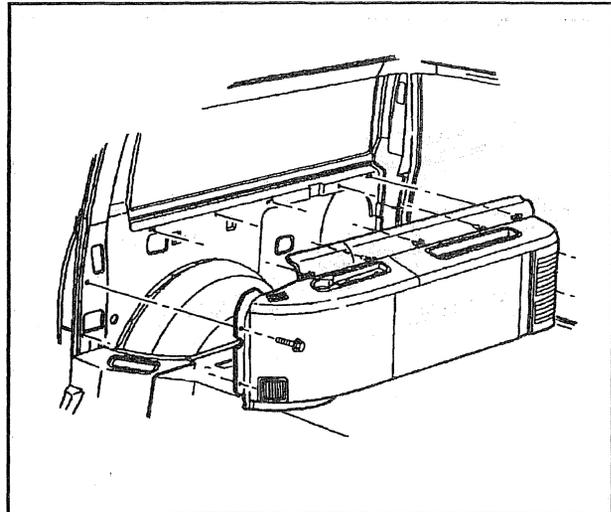

Figure 36—Right Quarter Panel Trim (Suburban)
↔ Remove or Disconnect (Figures 36 through 46)
**→←** Install or Connect (Figure 36 through 46)